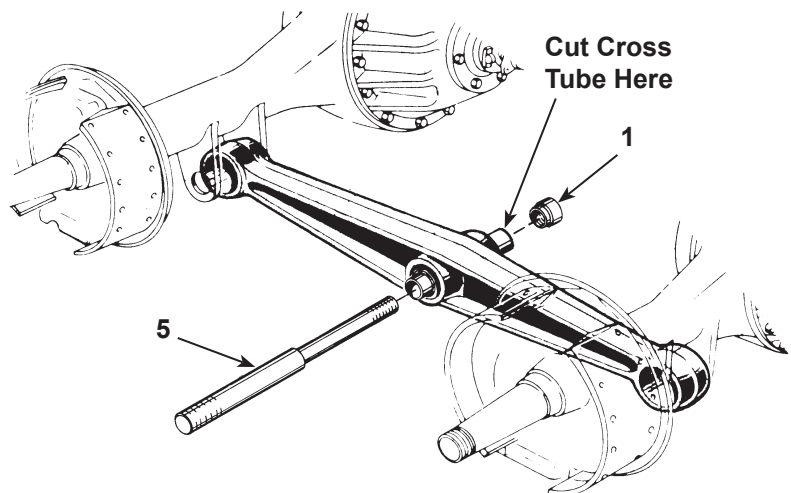

Figure 1
3. Cut the cross tube between the equalizing beams on the *inside* of both beams as close to the bushing as possible. See Figure 1.
4. Insert the pulling screw (Item 5) through the remaining portion of the cross tube within the bushing and fully thread the nut (1) onto the end of the pulling screw.
5. Assemble the pulling screw (5) into the hydraulic component of the 1740 service set. Fully engage the threads of the pulling screw with the nut (1) provided in the hydraulic component set. See Figure 1.